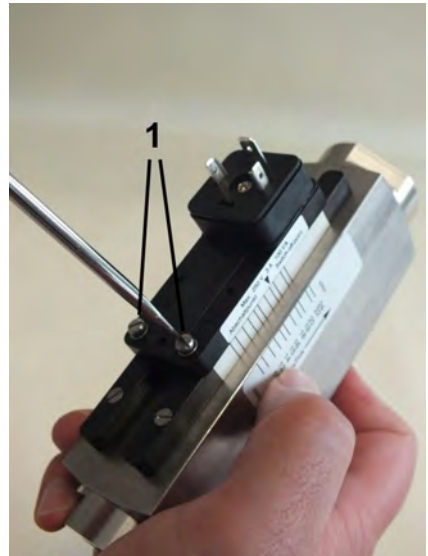

Fig. 67: Loosen set screws
3. ➤ Using a flat-bladed screwdriver (Fig. 67/1) loosen the set screws of the switch contact until it moves freely
11. ▶ Tighten the set screws (Fig. 67/1) observing the proper torque ( ↪ *Chapter 11.1 “Tightening torque” on page 91*).